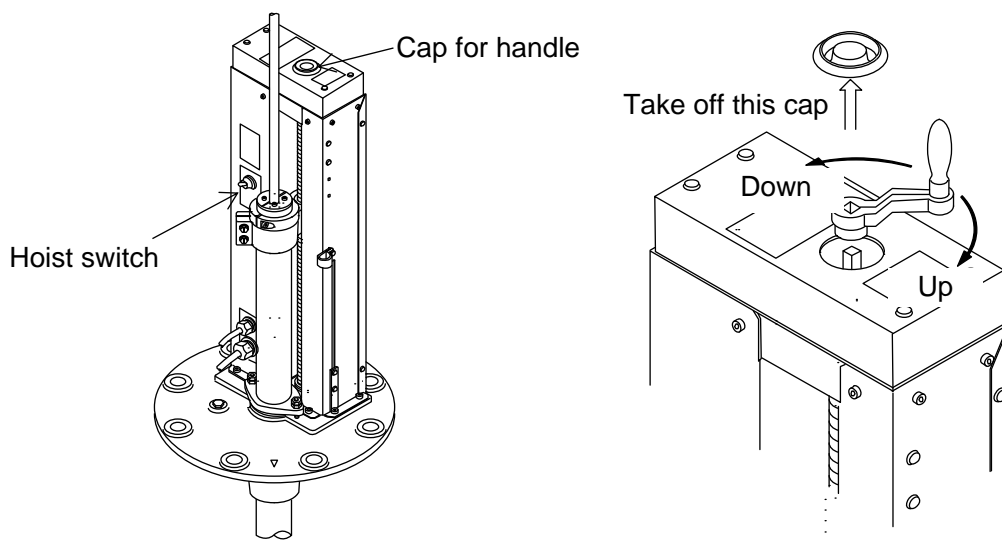

Fig.2
(5) Manual hoisting and lowering of a Transducer unit
- When the Transducer unit cannot be hoisted due to a trouble occurrence, it can hoist the Transducer unit by use of the attached crank handle after taking off the rubber cap. (Refer to Fig. 2)